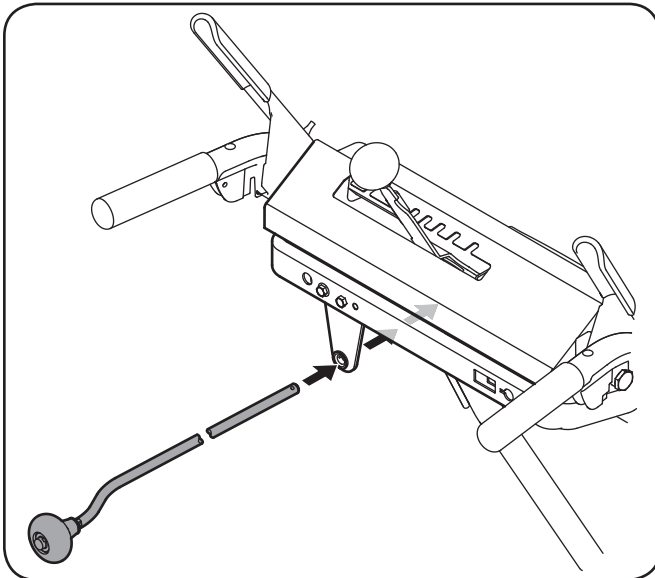

Figure 3-15
4. Insert the chute directional control rod into the support bracket on the rear of the dash panel. See Fig. 3-15.